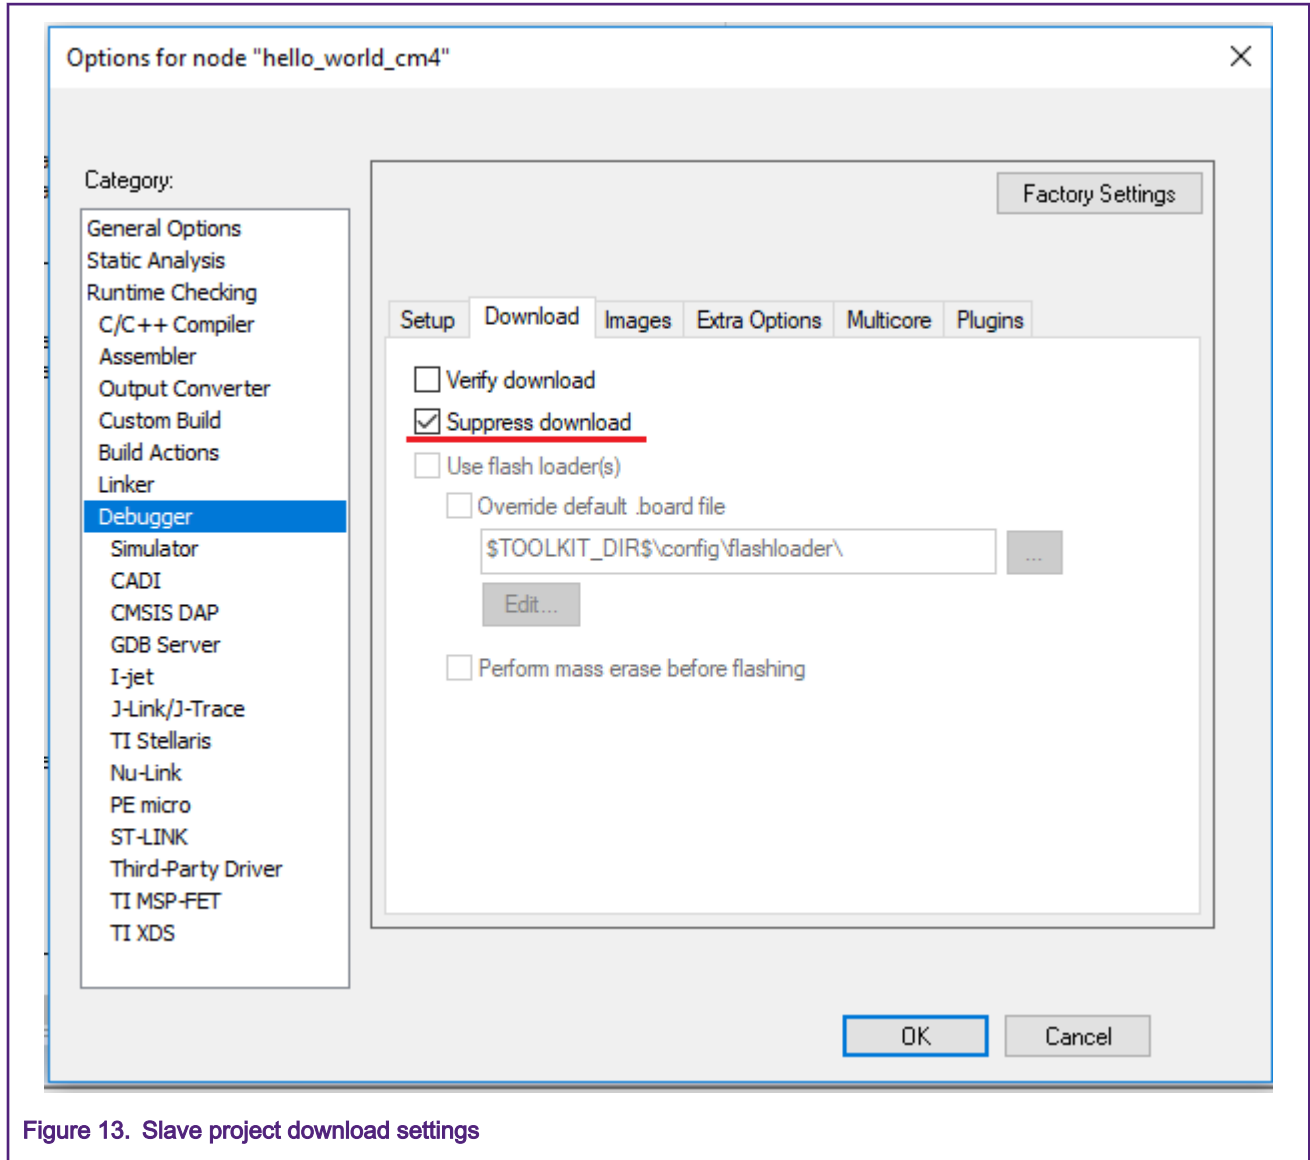

Figure 13. Slave project download settings
- Check the **Download** setting. Since the master project should take care of flashing the device to be debugged, the slave project should not try to download the code. This operation could result in errors. Figure 13 displays the slave project's download settings.